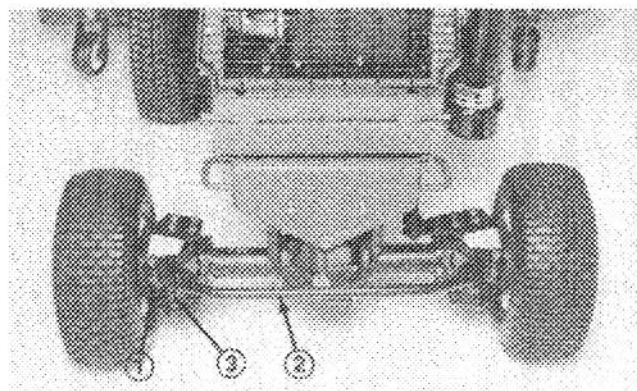

Figure 58
2. Remove cotter pin and nut securing one tie rod ball joint to mounting bracket on axle and disconnect ball joint from axle (Fig. 58).
3. Loosen screw on tie rod clamp (Fig. 58). Rotate ball joint in or out to adjust length of tie rod.